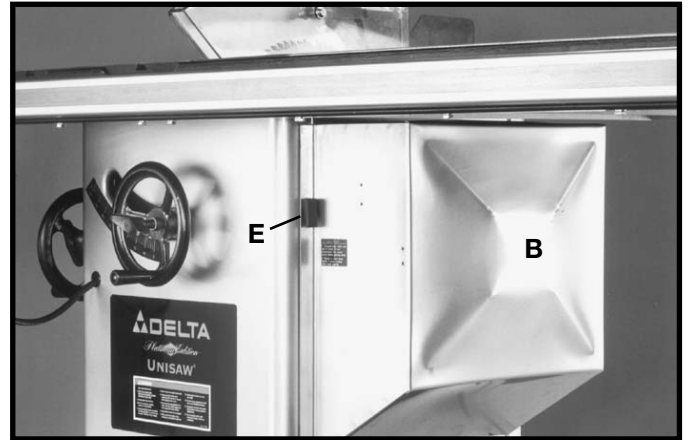

Fig. 44
5. Push down on lever (E) Fig. 44, to lock motor cover (B) in position on the saw cabinet.
To open motor cover (B) Fig. 44, pull up on lever (E), and swing motor cover outward.